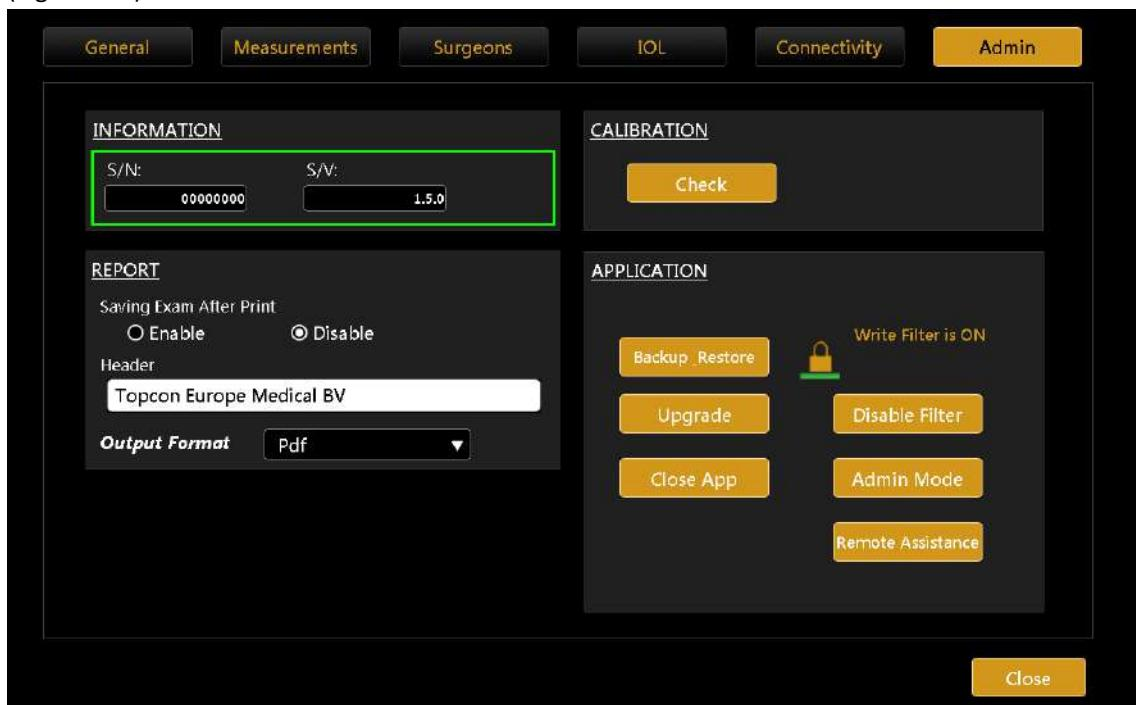

Figure 102
13. Your Aladdin is upgraded. Please check in the settings, “Admin” tab if the S/V is now the new one (Figure 102).